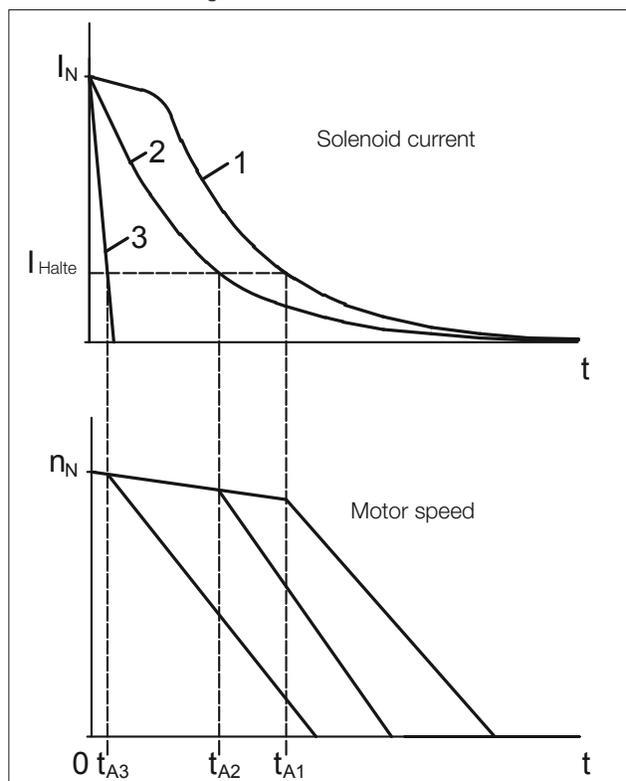

Figure 4 Idealized coil current and motor speed curves after switching off power on the AC side (1 and 2) or DC side (3)
- a) Rectifier powered from the motor terminal board (Figure 4, curve 1)
- b) Rectifier powered separately (Figure 4, curve 2)
Interrupting the DC circuit of the electromagnet coil (Figure 4, curve 3)